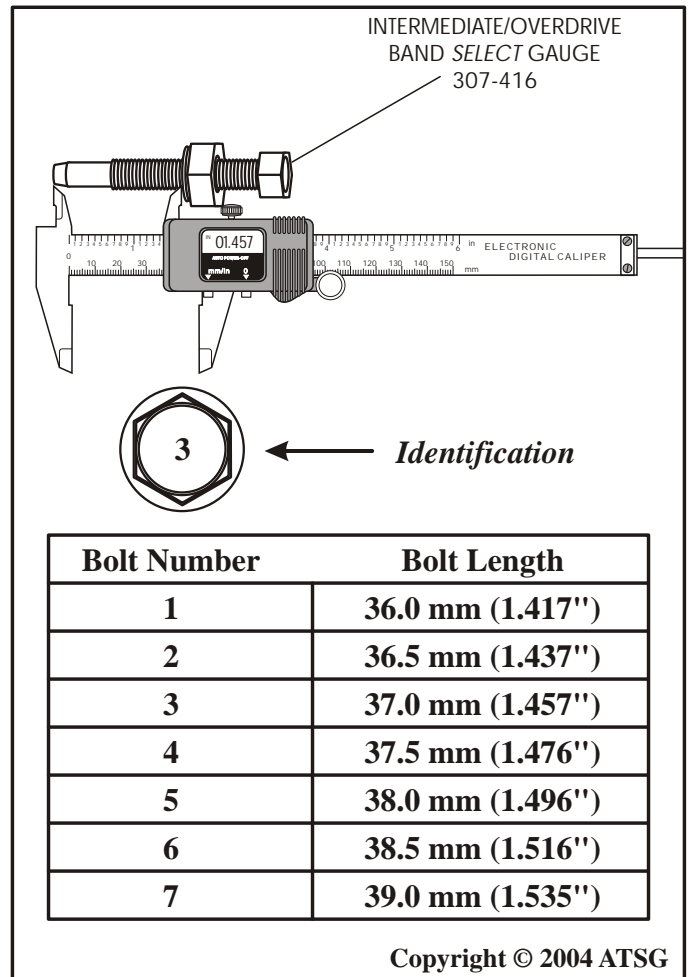

Figure 182
61. Measure the distance from end of the gauge to the washer, as shown in Figure 182.
62. Change the selective bolt as necessary to get the correct anchor using chart in Figure 182.